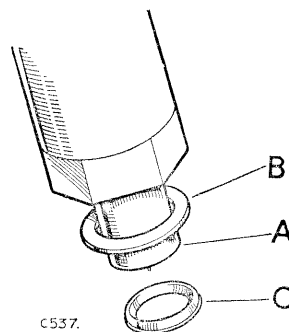

Fig. A-94—Position of injection nozzle washers
*Note:* Ensure that the bottom steel washer (corrugated) is replaced correctly, when refitting injectors. See Fig. A-94.